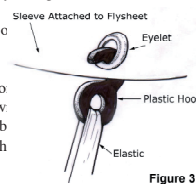

Figure 3
7. Then, working systematically, using the hooks attach the inner to the eyelets located on fabric tabs sewn to the inside of the flysheet (see figure 3).